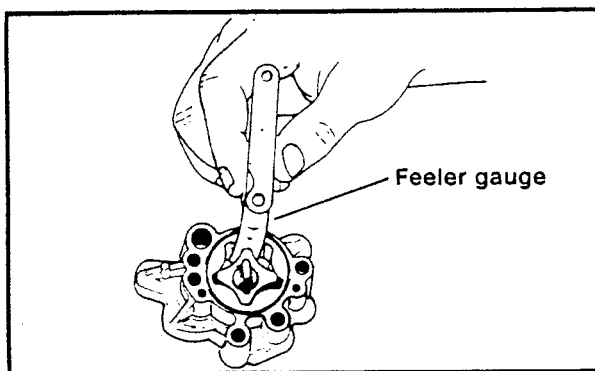

Figure 2-134. Oil Pump Tip Clearance
1. See Figure 2-134. Measure the oil pump tip clearance.